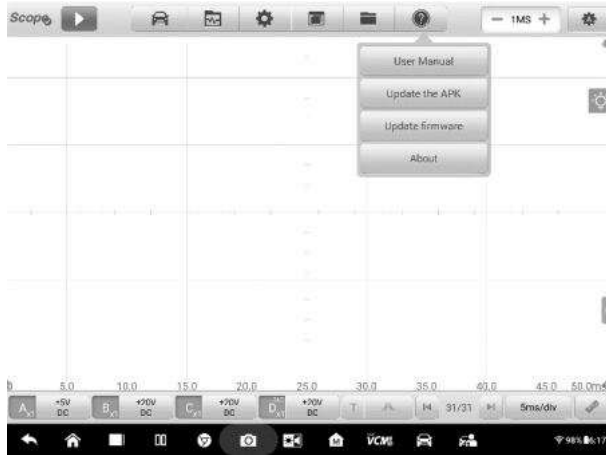

Figure 7-2 Sample Help Screen
1. Tap the **Help** button on the upper half of the screen. A dropdown menu displays. (*Figure 7-2*)